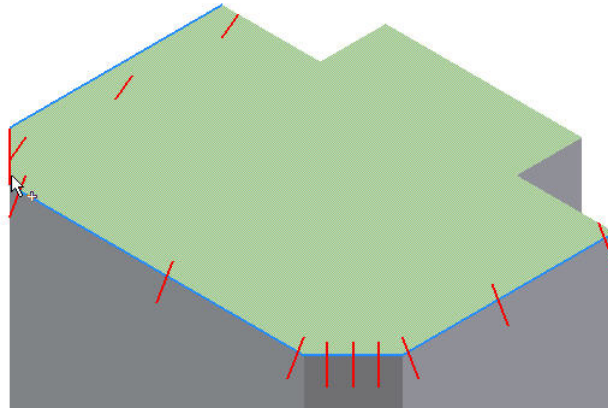

Figure 43
- ❑ Now select the edges that will be chamfered as shown in Figure 43.